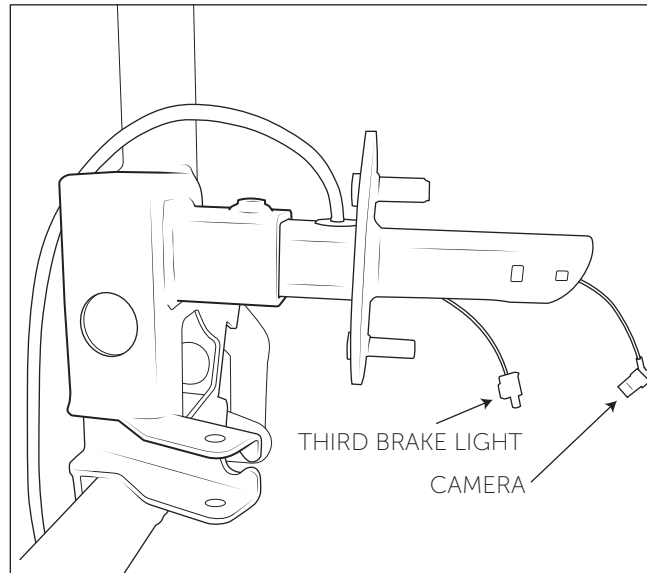

Figure 19
2. Run wiring harness through the top hole in the square tube of the wheel mount. Route connection for the camera through the end of the tube and third brake light through the slot on the bottom of the tube (fig. 19). Push grommet into the hole in the square tube.